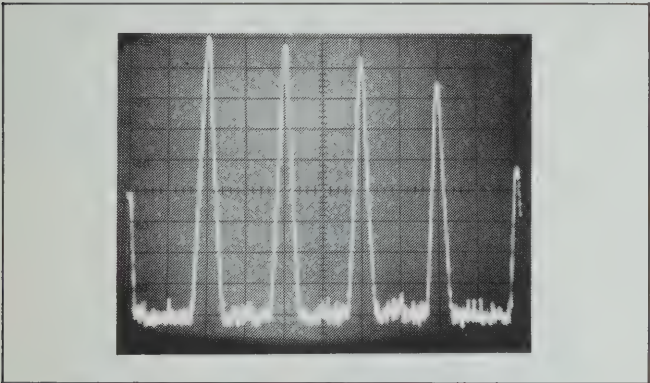

Figure 5-1. 10 kHz CAL Signal.
- b. The 10 kHz CAL signal and its harmonics should be repetitively swept and appear on the display as shown by Figure 5-1. The separation between the Zero Response and 50 kHz harmonic should be 10 major divisions \pm 1 minor division. The separation between any two adjacent responses should be 2 major divisions \pm .2 minor divisions. Momentarily push and release DISPLAY - STORE, watching the display to verify that the STORE and NON-STORE traces appear in the same position.